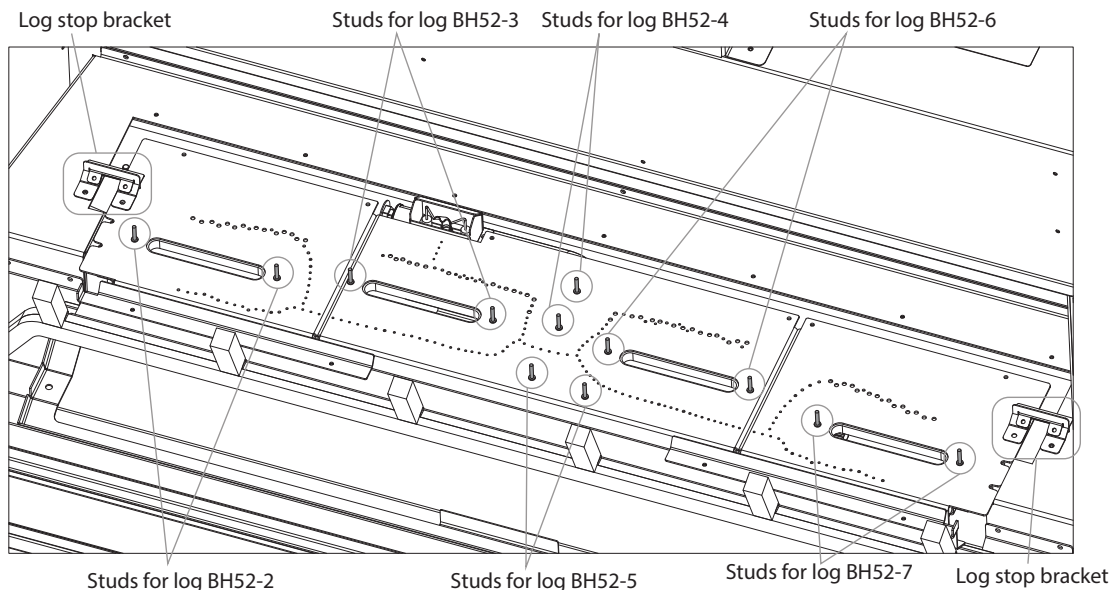
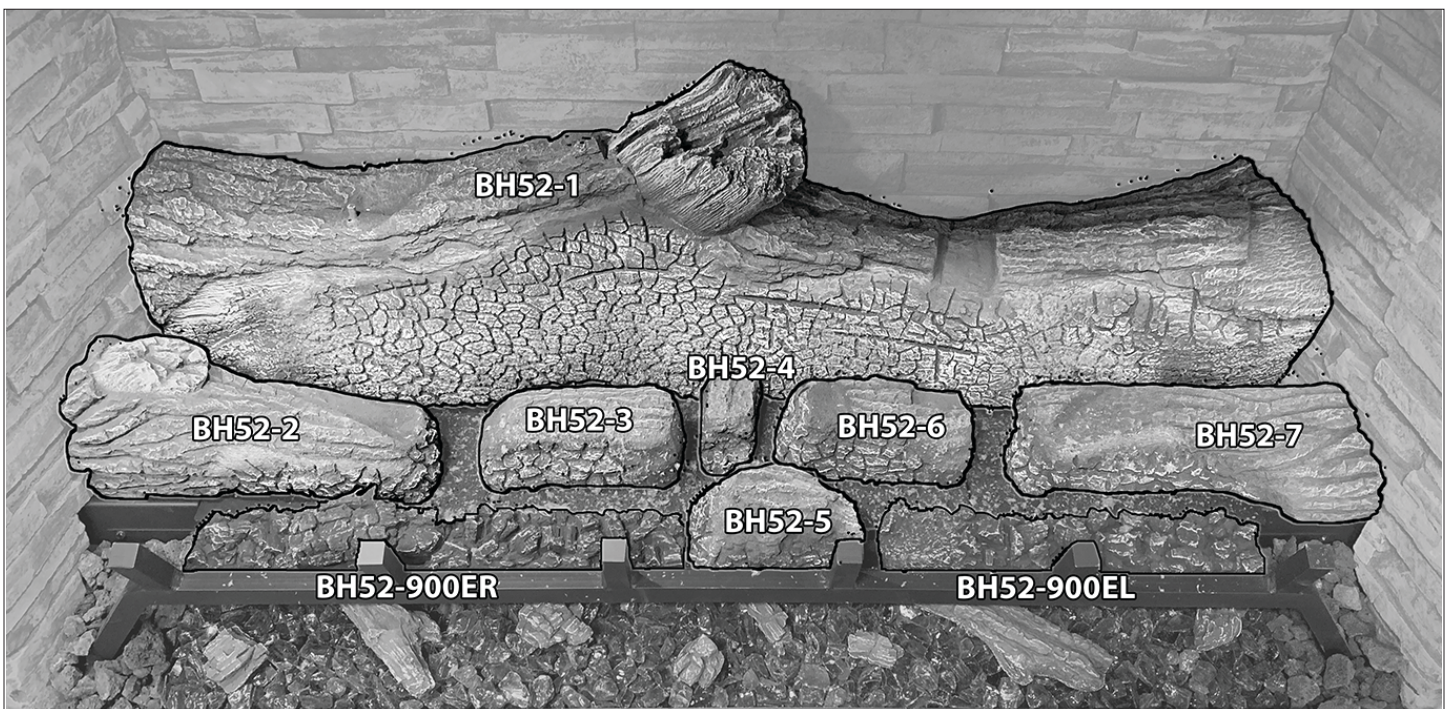

Figure 8.6, Burner Stud Locations and Log Stop Brackets
Figure 8.7, Base Logs
1. Using both hands, place log BH52-1 at the rear of the firebox, as shown in Figure 8.7. Slide the log forward until it rests against the log stop bracket flanges (Figure 8.6).
3. Align the holes in the bottom of logs BH52-2 through BH52-7 with the corresponding studs located on the burners. See Figure 8.6 for burner stud locations.
4. Set logs BH52-2 through BH52-7 into position as shown in Figure 8.7.
5. Place the left and right ember panels on their respective sides of log BH52-5, as shown in Figure 8.7. The right ember panel has a flat notch on the side closest to log BH52-5.